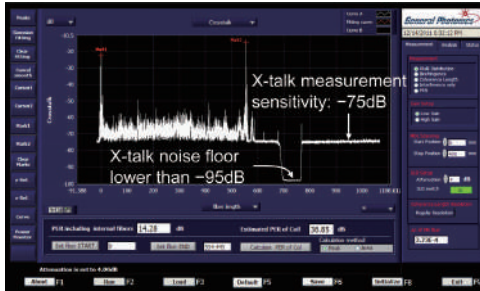

Figure 1. Instrument display showing the x-talk measurement sensitivity and x-talk measurement noise floor.
2. Defined as the system noise displayed on the polarization X-talk curve when input light is turned off during a measurement for which the DUT output power >5 dBm (See Fig. 1).